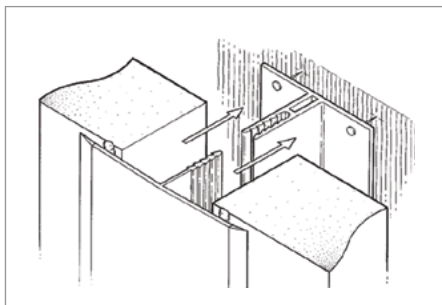

Figure 1
- PVC (polyvinyl chloride) interlocking system (Figure 1)
3. Install PVC interlocking system vertically with self-impaling nails/ fasteners and washers (Figure 1).